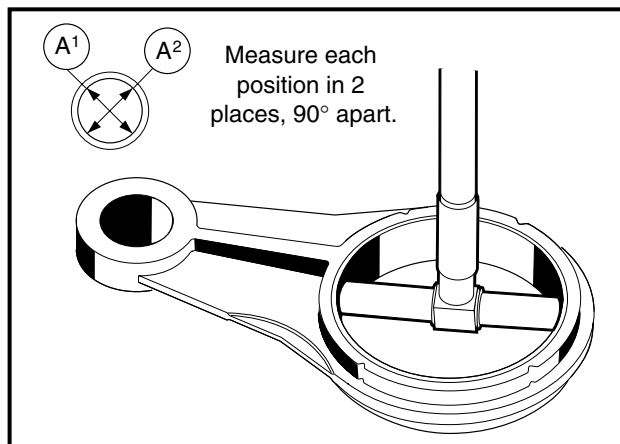

Figure 3-72 Measure Link Rod Large Bore I.D
- 1.3. If the inside diameter of the large end is greater than 1.9726 inches (50.106 mm), replace the link rod (**Figure 3-72, Page 3-34**). See following **NOTE**.